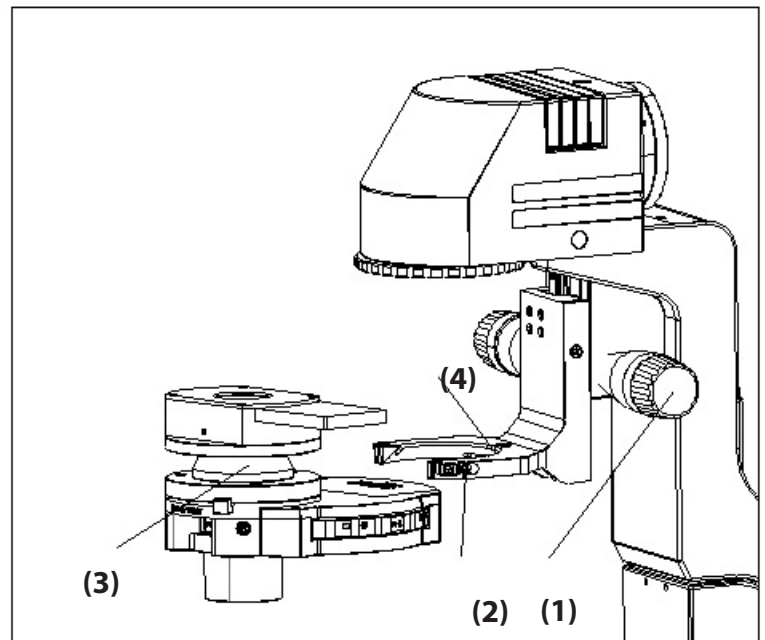

Figure 9
Refer to Figure 9 for reference. To assemble the condenser, first turn the knob (1) to lower the condenser bracket to a height where the condenser does not hit any other part of the microscope during assembly. Use the included M4 Allen key to unscrew the set screw (2). Align the groove (3) on the condenser with the u-shaped groove (4) on the condenser lens and gently push it into the bracket as far as it will go. Secure the condenser in place by tightening the set screw (2).